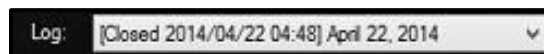

Figure 5.4-2: Example of a Closed Log
3. The name of the Log file will automatically change to **"Closed"** along with the date and time at which it was closed (Figure 5.4-2).